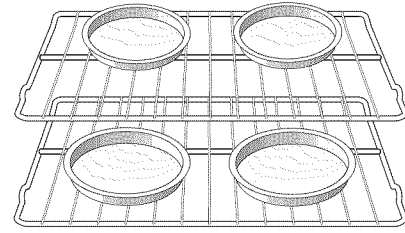
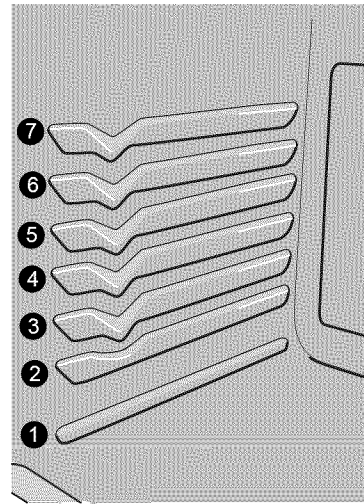

Figure 25: Baking on multiple levels
Figure 26: Oven rack positions
- When baking using two oven racks, position bakeware as shown in Figure 25. Allow at least 2 inches (5 cm) of space between bakeware for proper air circulation.
- For best results when baking cakes or cookies using two oven racks, place racks in positions 2 and 5 (See Figure 26) and place pans as shown in Figure 25.